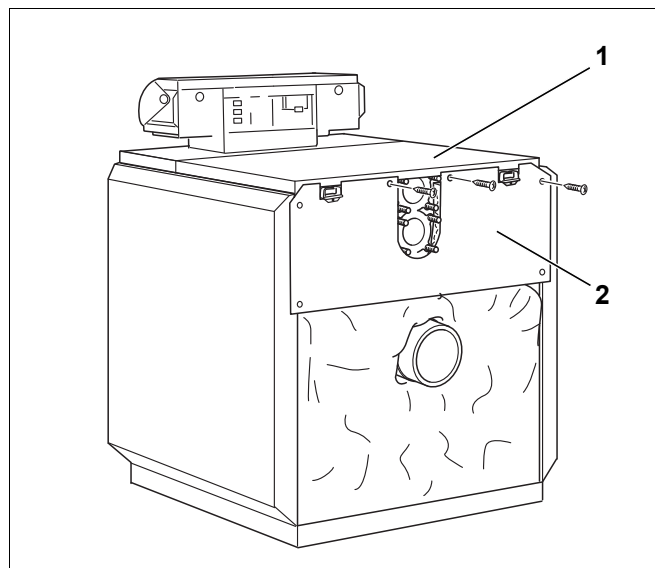

Fig. 39 Installation of the upper boiler back wall
- Secure the rear upper boiler wall (Fig. 39, [2]) on the back of the rear hood (Fig. 39, [1]) and on the side walls.